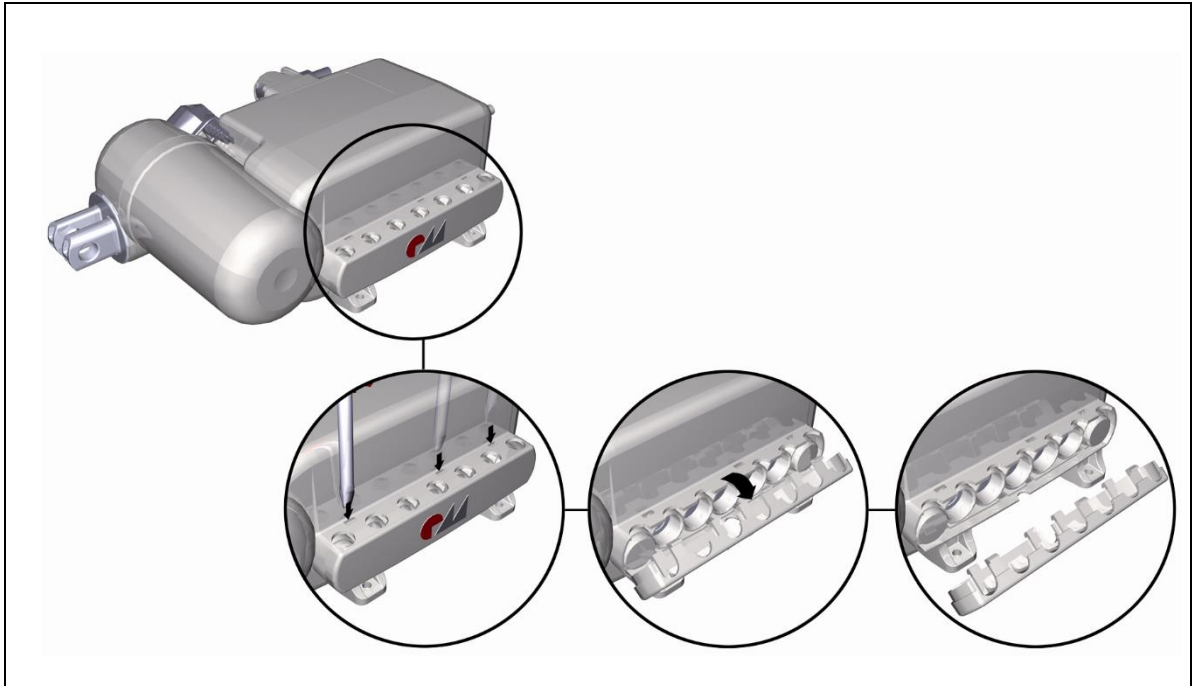

Figure 16 Opening the shield cover on the MCL II control unit
- 2 Use a suitable tool to press the three locking clips down in the notches as shown in Figure 16. At the same time, tilt the shield cover forward so that the clips come out of the notches.
- 2 Use a suitable tool to press the three locking clips down into the notches as shown in Figure 16. At the same time, tilt the shield cover forward so that the clips come out of the notches.
- 2 Open and remove the shield cover (refer to Figure 16).